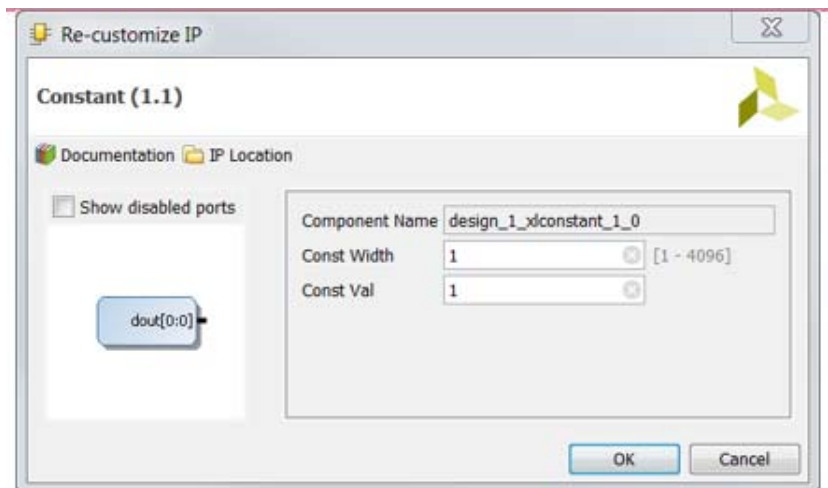

Figure 6: Re-customize IP Dialog Box
In Figure 6, set the **Const Width** value to the desired bit-width. In the **Const Val** field, specify the constant value in decimal, binary (b), octal (0), or hexadecimal (0x or 0X) format. If you specify the values in binary, octal, or hexadecimal format, a prefix of b, 0, or 0x/0X should be added respectively. For example, if you specify the **Const Val** as decimal 12, this is 1100 in binary. This means 4 bits are needed for this value and therefore, the Const Width should be 4 at a minimum.